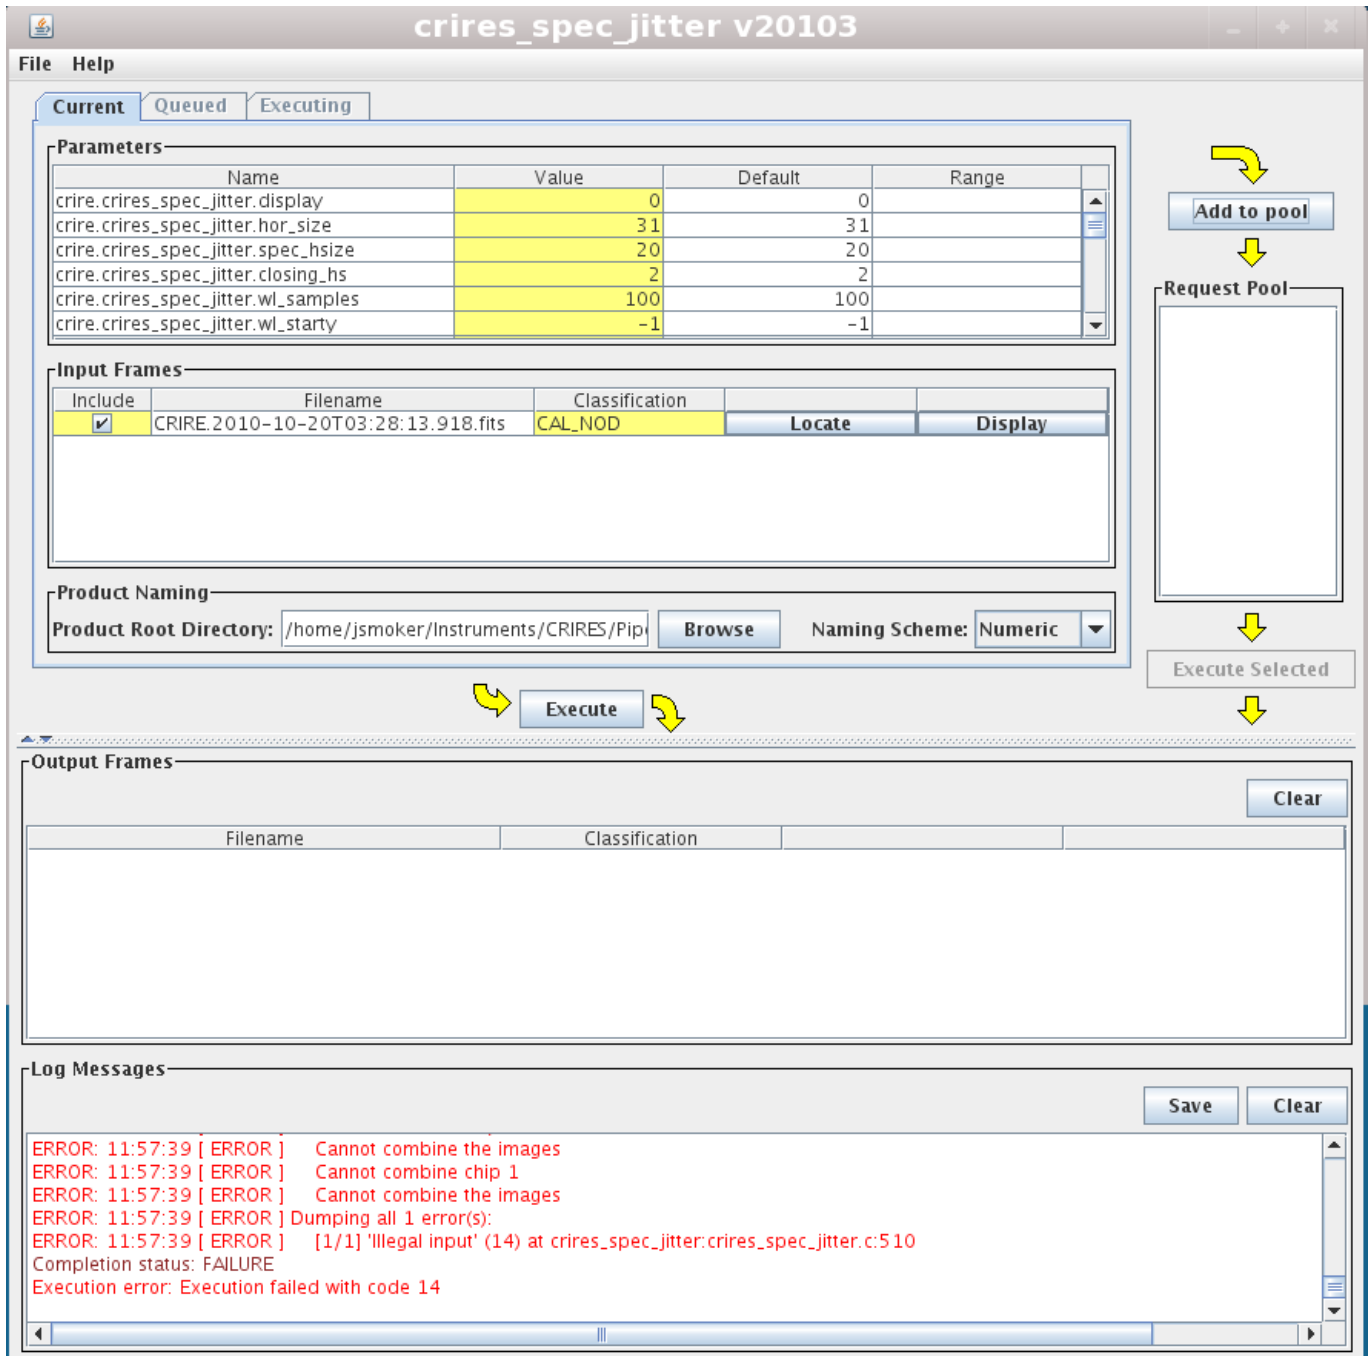

Figure 20: Failed reduction because only one spectrum was used in the recipe `crir. crires_spec_jitter` with the default parameters.
- **Parameters.** For the `crires_spec_jitter` recipe there are 23 parameters that you can alter as you please in order to tune the data reduction (top panel of Fig. 20).
OK, now it is time to run the first reduction. Hit the `Execute` button and look at Fig. 20 for the output.